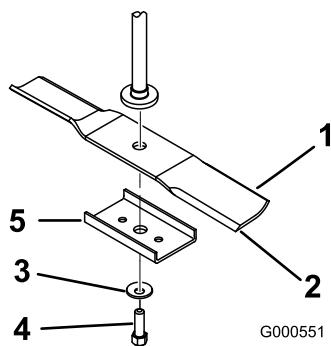

Figure 47
Hold the blade end using a rag or thickly-padded glove. Remove the blade bolt, curved washer, blade stiffener, and blade from the spindle shaft (Figure 47).
1. Install the blade onto the spindle shaft (Figure 47).
2. Install the blade stiffener, the curved washer (cupped side toward the blade) and the blade bolt (Figure 47).